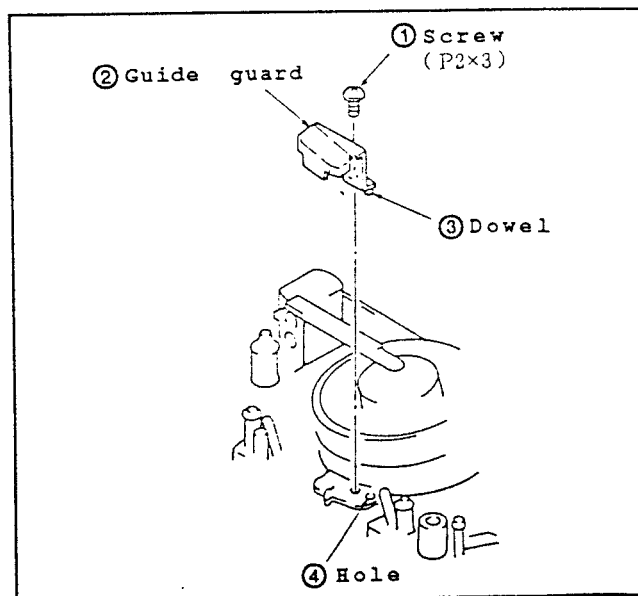

Fig.II-8
- Disassembling (Fig.II-8)
- (1) To detach the guide guard, remove a screw ①.
- Reassembling (Fig.II-8)
- (1) Install the guide guard while aligning the dowel ③ with the hole ④.
- (2) Secure the guide guard ② with a screw ①.